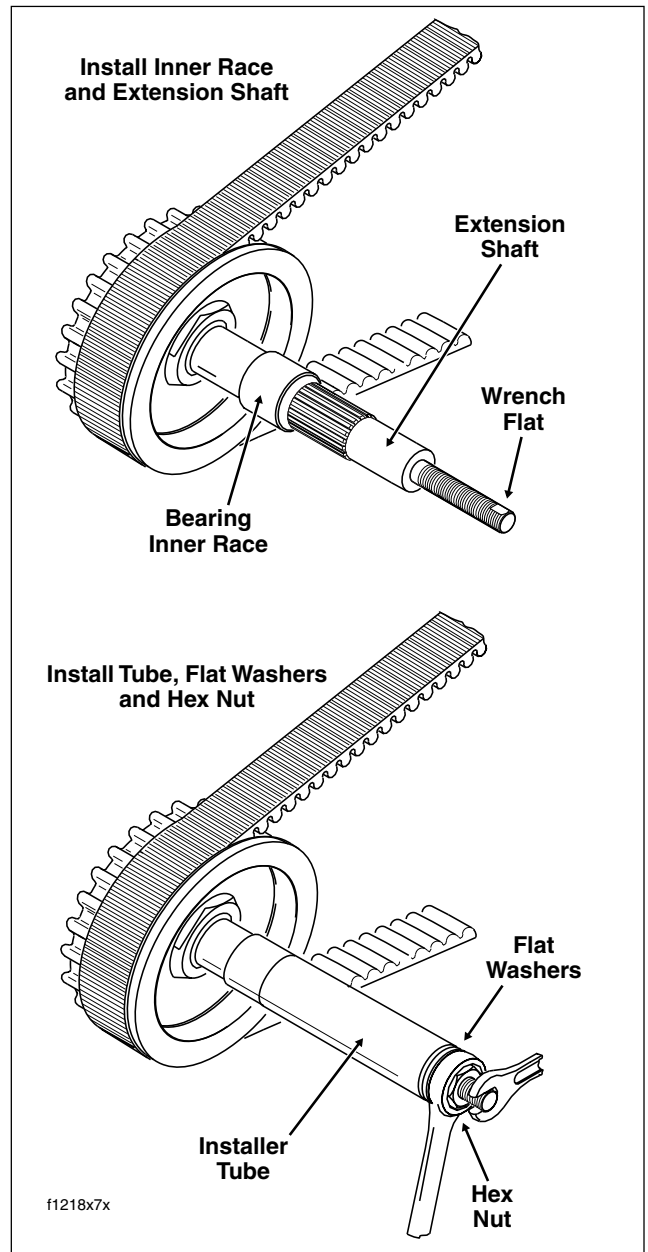

Figure 6-25. Press Bearing Inner Race onto Mainshaft
2. Thread extension shaft onto end of mainshaft. See upper frame of Figure 6-25.
- Place both large flat washers over threaded portion of extension shaft until they contact installer tube. Install large hex nut onto extension shaft. See lower frame of Figure 6-25.